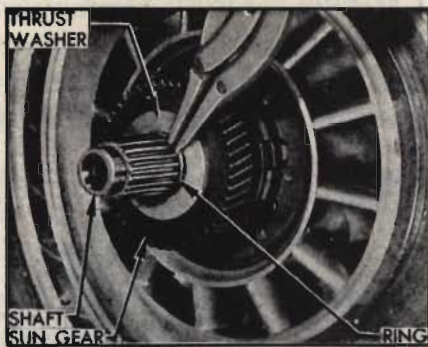

Fig. 24. Retaining ring, washer and sun gear
6. Using snap ring pliers, remove retaining ring from input shaft. Remove bronze thrust washer, sun gear and sun gear yoke (Fig. 24).